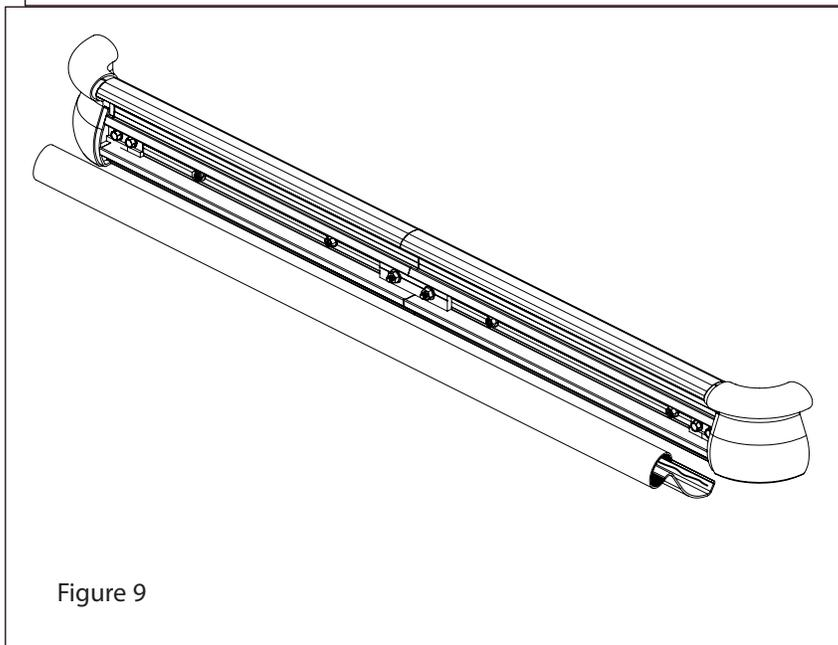

Figure 9
10. Position cover on retainer starting at the bottom and pivot the cover over the top of the retainer until it snaps over into place.(see figure 9).